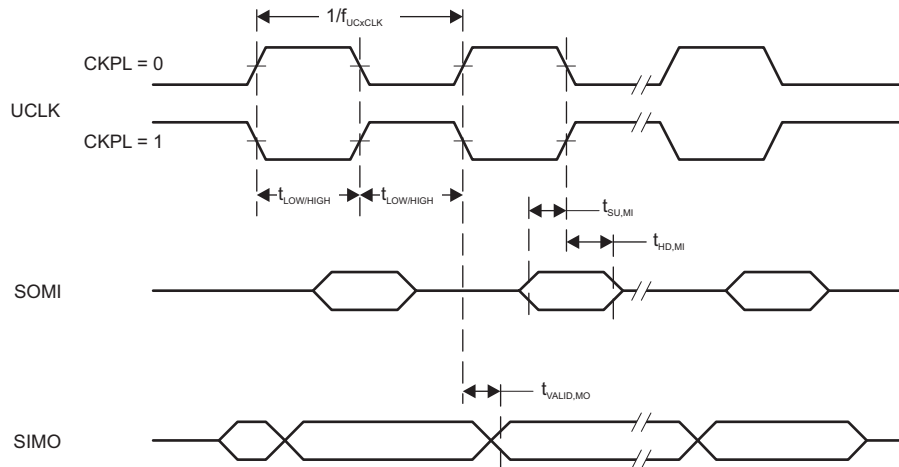
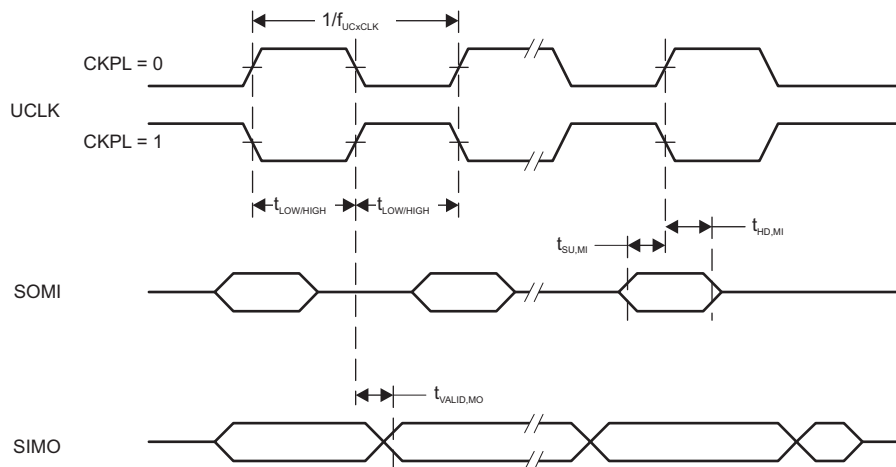

Figure 5-10. SPI Master Mode, CKPH = 0
Figure 5-11. SPI Master Mode, CKPH = 1
- (1) $f_{UCxCLK} = 1/2(t_{LO/Hi})$ with $t_{LO/Hi} = \max(t_{VALID,MO(eUSCI)} + t_{SU,SI(Slave)}, t_{SU,MI(eUSCI)} + t_{VALID,SO(Slave)})$. For the slave's parameters $t_{SU,SI(Slave)}$ and $t_{VALID,SO(Slave)}$ see the SPI parameters of the attached slave.
- (2) Specifies the time to drive the next valid data to the SIMO output after the output changing UCLK clock edge. Refer to the timing diagrams in Figure 5-10 and Figure 5-11.
- (3) Specifies how long data on the SIMO output is valid after the output changing UCLK clock edge. Negative values indicate that the data on the SIMO output can become invalid before the output changing clock edge observed on UCLK. Refer to the timing diagrams in Figure 5-10 and Figure 5-11.